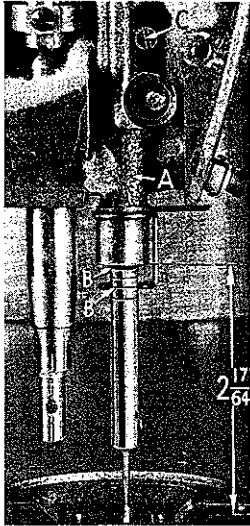
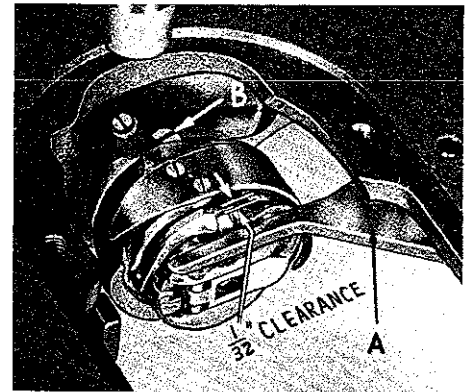

Fig. 11
Fig. 12
The lower end of the needle bar frame, the one to which the needle bar is timed, is faced to height at the factory. The distance from the bottom of frame (A, Fig. 11) to the throat plate seat is  $2 \frac{17}{64}$  inches.
When the needle bar is at its lowest position, the upper timing line (B, Fig. 11) (of the pair selected) dependent upon the needle used, should be EVEN with the lower edge of the lower needle bar frame (A).
The illustration (Fig. 11) shows the proper setting of the needle bar on Styles 63900 A, C or AL using extra short length needles, Type 183. The setting of the needle bar on Styles 63900 B or D using short length needles, Type 180, is accomplished in the same manner, except that the lower pair of timing marks on the
Tip the machine back so that it rests on the rest pin in the table top. Insert a new needle. Loosen the two screws, and swing out the bobbin case positioning finger (A, Fig. 12). Loosen the three set screws (B) in the hook, and hold the hook and bobbin case holder in such a position as to prevent interference with the needle. Turn handwheel in operating direction until the needle bar is at its lowest position, and continue to turn the handwheel until the needle is ascending and the lower timing mark (of the pair selected) (Fig. 11) used in setting the needle bar is even with the lower edge of the needle bar frame (A).
Adjust the bobbin case holder positioning finger by turning the bobbin case holder until the finger recess is at the top. Place the projection on the finger into the bobbin case holder recess and tighten the finger attaching screws securely, allowing  $\frac{1}{32}$  inch clearance between the outside edge of projection and the inside edge of bobbin case recess (Fig. 12).